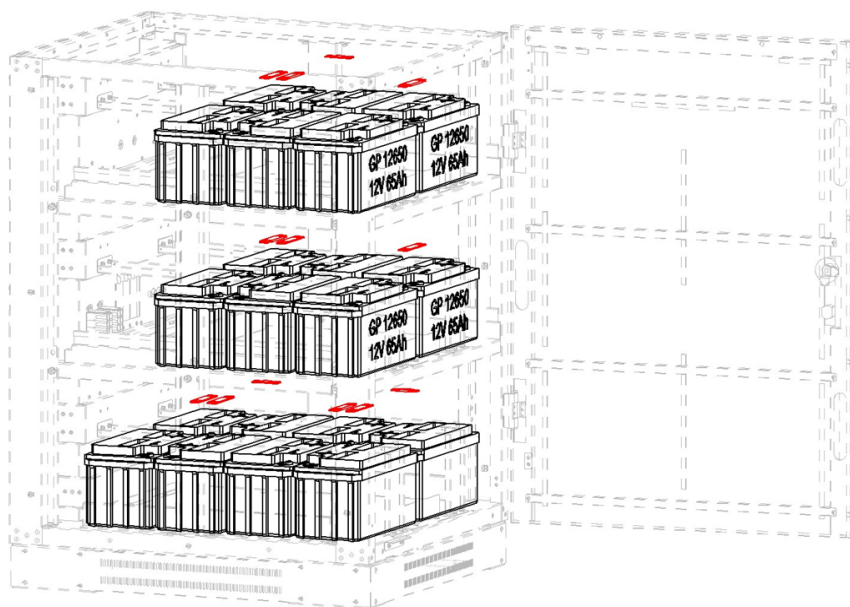

Figure 5-17A
8. Model BP240V65-NIB: Install copper bus bars (13 pieces) between adjacent batteries and the battery insert bolts/screws (Figures 5-17A and 5-17B).